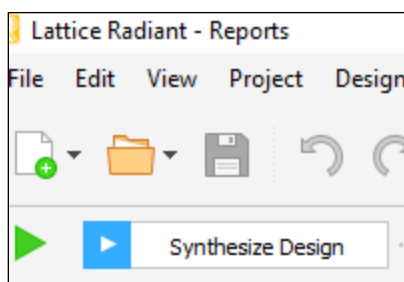

Figure 3.3. Synthesizing Design
- After generating your desired design, synthesize it by pressing **Synthesize Design** located at the top left corner of the screen, as shown in Figure 3.3.